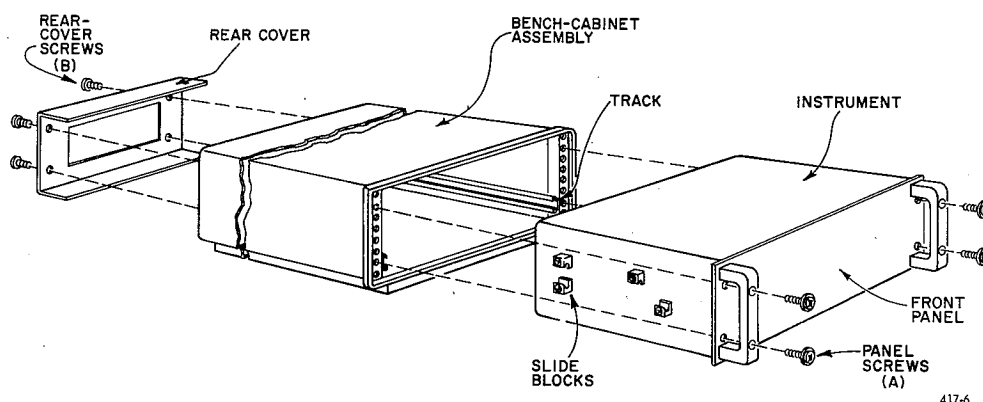

Figure 2-4. Bench-cabinet assembly.
To remove a bench-model instrument from its cabinet: Remove the four panel screws (A, Figure 2-4), two on each side of the front panel. These are No. 10-32, 9/16-in. screws, with Nylon washers. To loosen them, insert a Phillips-head screwdriver through the holes in the handles, as shown in the figure. Then pull the instrument forward, out of the cabinet, lifting it slightly at the end of the track to clear the stops.
- a. Disconnect all cables from the rear of the instrument, remove the four panel screws (A, Figure 2-4), and pull the instrument forward, out of the cabinet.
- b. From the rear, remove the four screws (B) holding the rear cover to the bench cabinet and remove the cover.